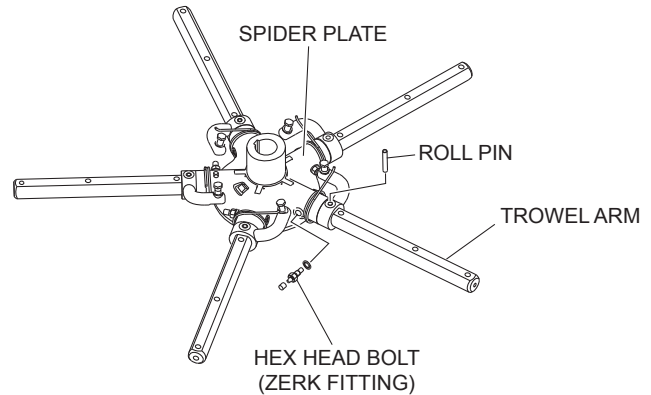

**Figure 32. Trowel Blade Removal**
1. Remove trowel blade from trowel arm by removing the three hex head bolts and lock washers from the trowel arm (Figure 32). Set blade and hardware aside.